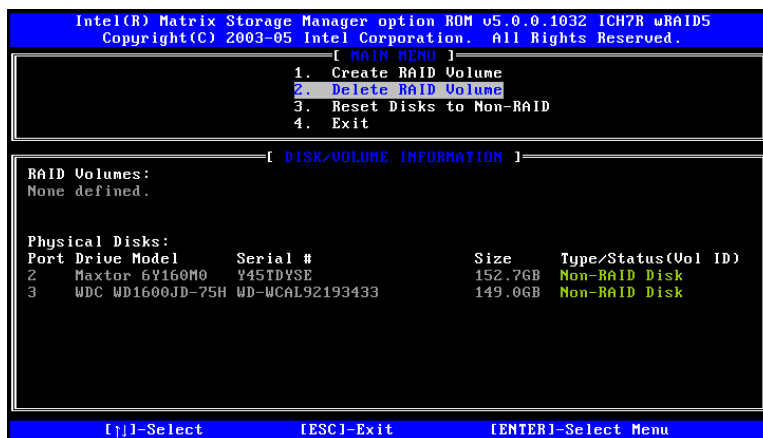

Figure F-11: Non-RAID Disks
Step 4: Non-RAID Disks. After deleting the RAID volume, the disks belonging to the volume will be shown as non-RAID disks. See Figure F-11.